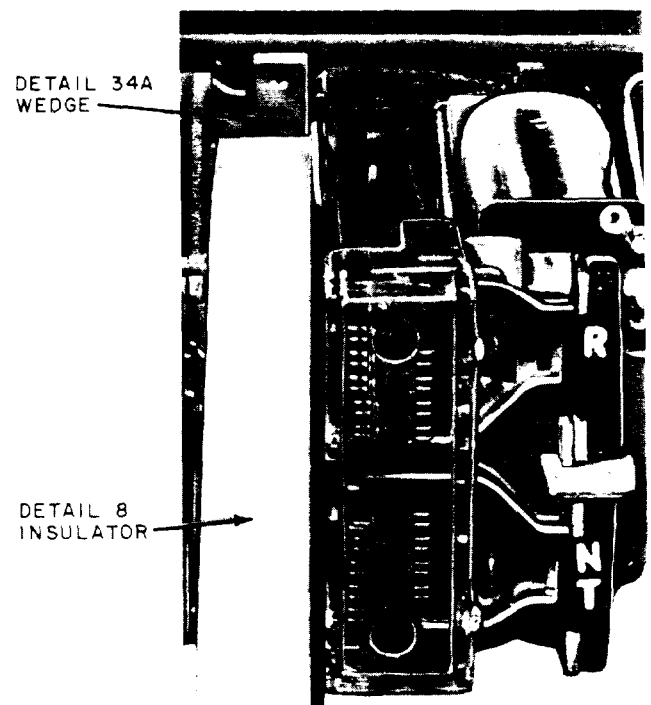

Fig. 16—Details 34A and 34B Wedges in Place With Detail 8 Insulators (34B not shown)
- (a) Place Detail 8 insulator over the winding terminals of the relay to the left of the relay being repaired. Place with the 1/8-inch long leg in an up position on the upper terminal and in a down position on the lower terminal. See Fig. 16.
of the relay to its left. See Fig. 16. After the wedge is firmly in place, unscrew the wedge inserter.
- (c) Screw the wedge inserter into the Detail 34B lower wedge and with the wide end up, insert the wedge using the procedure followed in inserting the upper wedge. See Fig. 16.